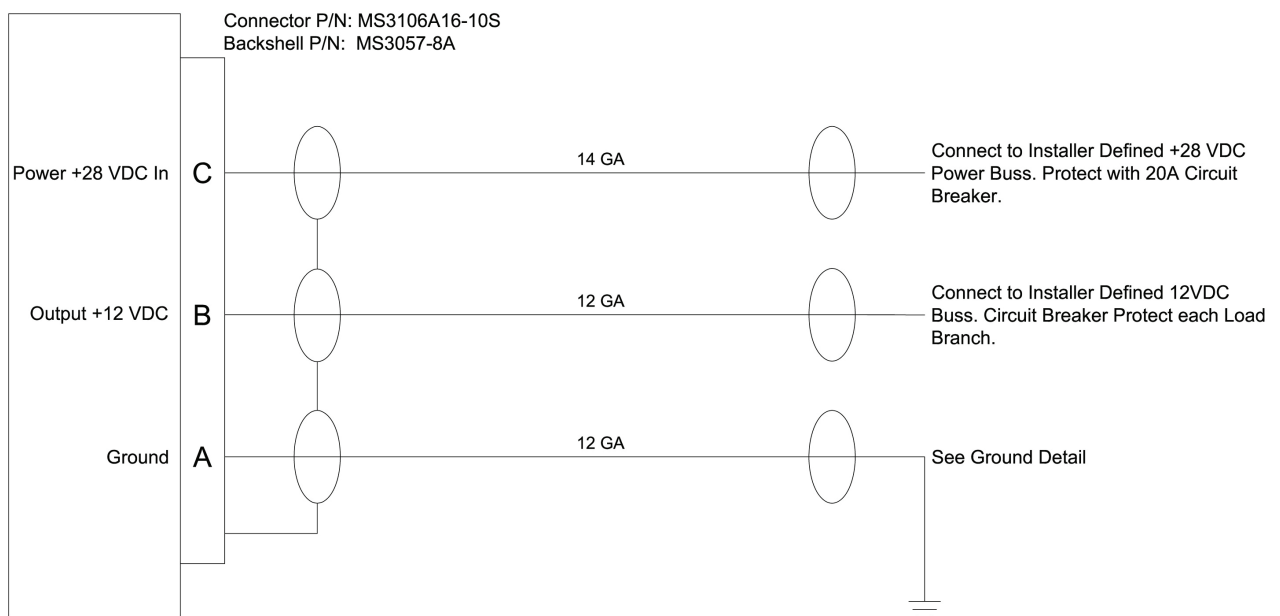

Figure 3 Cable Wiring
- 2.2. Refer to Figure 3 for cable harness fabrication instructions to connect to the Power Converter.